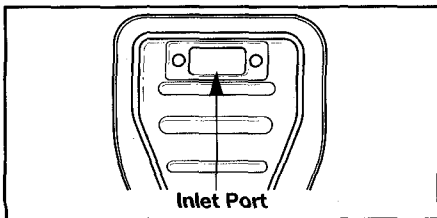

Fig. 38
3. Check the inlet port of the muffler and outlet port of the cylinder for excessive carbon deposits (Figs. 38 and 39). Clean or replace the muffler as required. If the outlet port of the cylinder is plugged, contact your authorized service dealer.